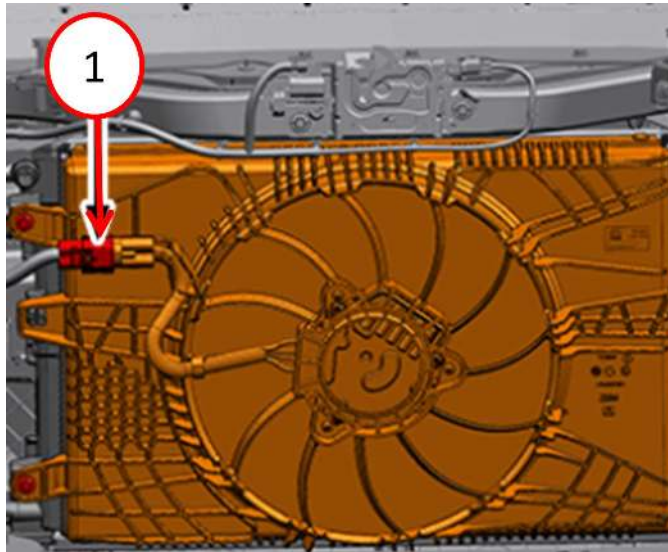

Fig. 1
4. Disconnect the cooling fan wire harness connector Fig. 1.**
13. **Connect the cooling fan wire harness connector Fig. 1.